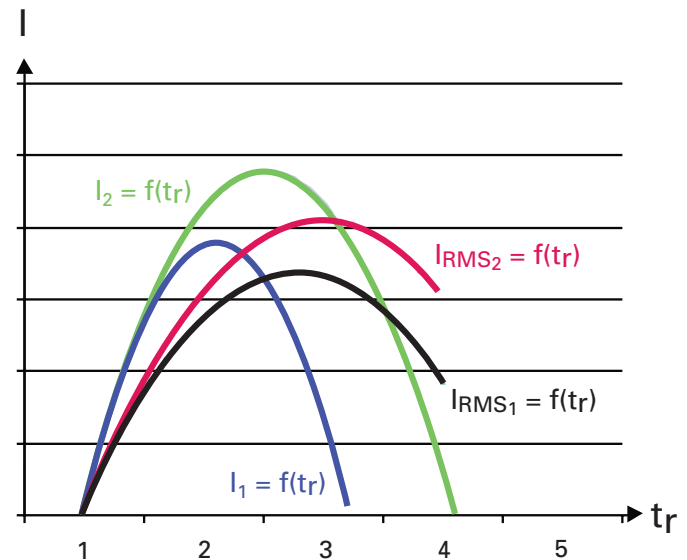

Figure C2. Overload and fault current curves.
- First, the actual overload/fault current must be known, either in the form of a curve (Figure C2,  $I_1=f(t_r)$  and  $I_2=f(t_r)$ ), or from Equation C1: